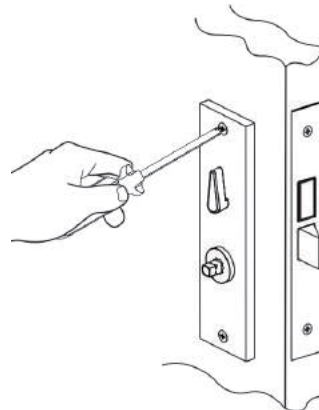

Figure 11
2. Secure the inside escutcheon to the outside escutcheon using thru-bolt screws provided. (Figure 11)